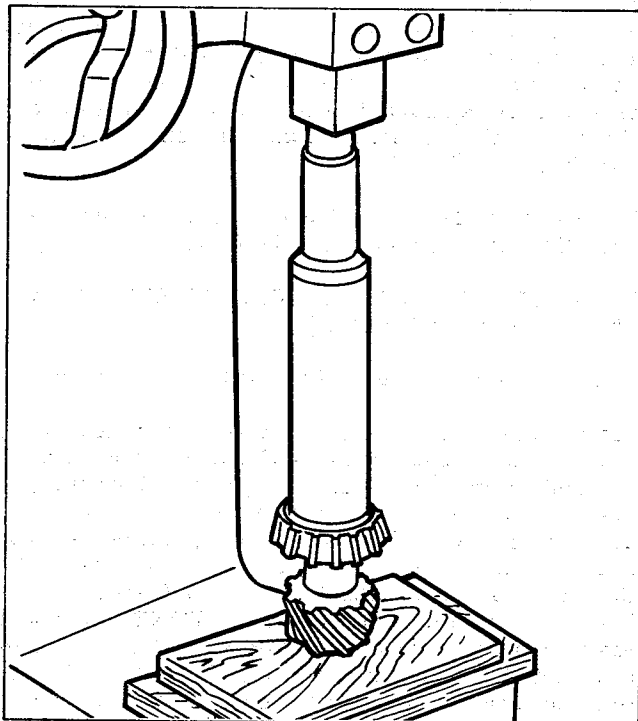

Figure 2-15. Installing Rear Bearing
12. Install drive pinion shaft rear bearing cone (23) and spacer (24) with press tool similar to one shown in Figure 2-15.